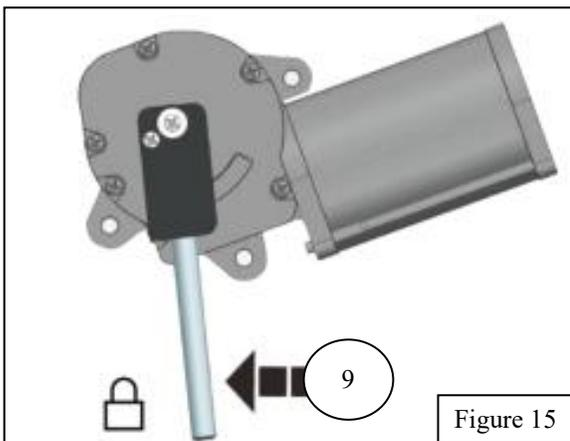

Figure 15
6. Install the motor clutch handle (**Item 9**) onto the motor assembly. Lift the handle upward to disengage the motor. Rotate the motor arm (A) so that it aligns with the rotating shaft in the canister (B). See **Figures 15 & 16**.